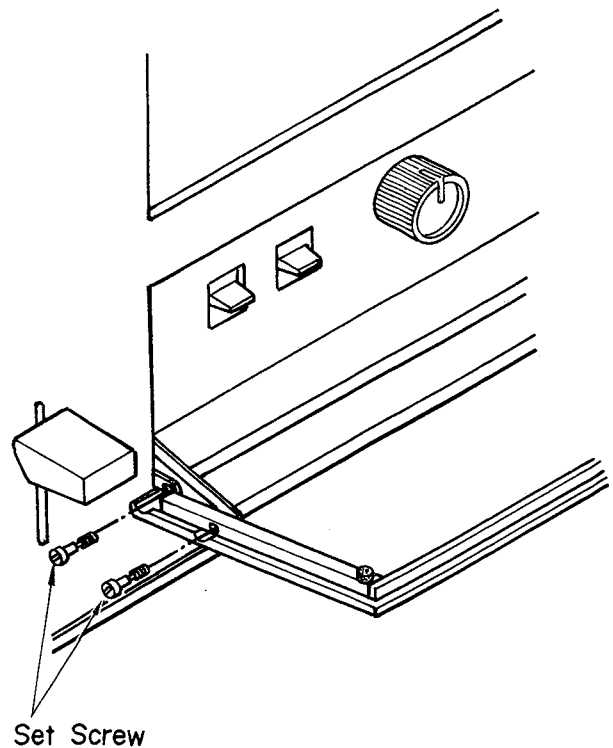

Fig. 2-2
- (b) Remove all control knobs. Tuning, Volume Control and Lid for control panel can be removed by loosening the slotted set screws and pulling the knobs straight out. The Power, Monitor and Mode switch knobs are simply pulled off. See Fig. 2-2.